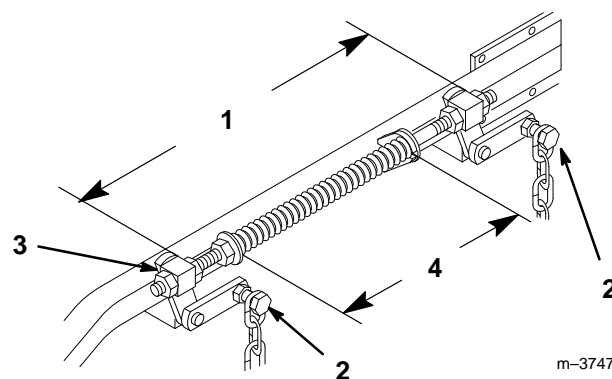

Figure 13
6. Loosen four (4) top chain bolts in slots. Check the length of the rod/swivel assemblies. Distance from outside of rear swivel to outside of front swivel should be 20-1/4" (514 mm) (Fig. 13). Make sure that all four swivels move freely in holes.
8. Lift up on four (4) top chain attachment bolts, in the slots, to take slack out of chains and tighten flange lock nuts. (Deck is still supported by two rear and one front blocks under mower)
13. Springs are compressed so the distance between the two large washers should be 11-1/2" (292 mm) (Fig. 13).
14. Adjust by turning nut in front of each spring (Fig. 13). (clockwise will shorten spring, counter-clockwise will lengthen spring)